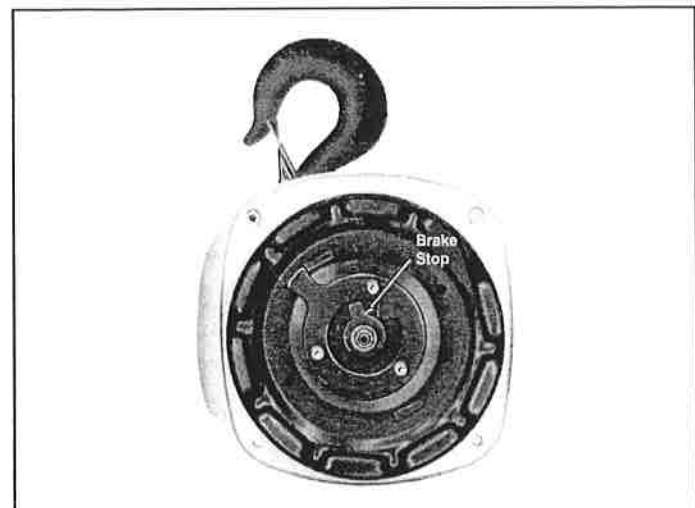

Figure 7-7. Brake Stop Position for Other Models
d. Install brake stop in position shown in Figure 7-6 for 1/4 and 1/2 ton models or in position shown in Figure 7-7 for other models.